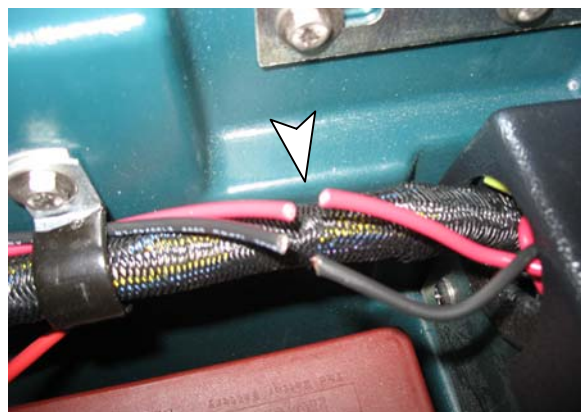

Fig. 9
9. Cut the charger's DC wires (red and black) between the front clamp and the control box cover (Figure 9).